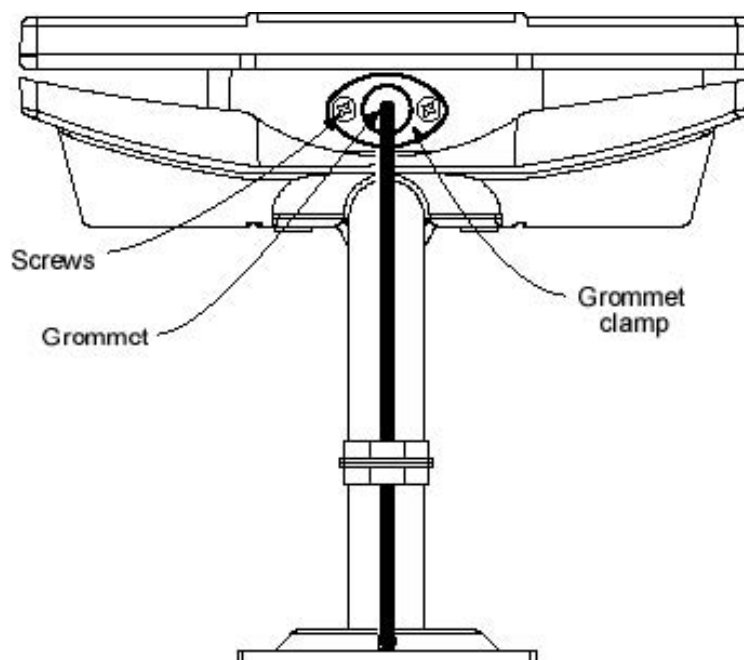

Figure 6-2 Grommet Location - Underside of CPE
- 2) Insert the cable end through the grommet clamping plate (Figure 6-2)